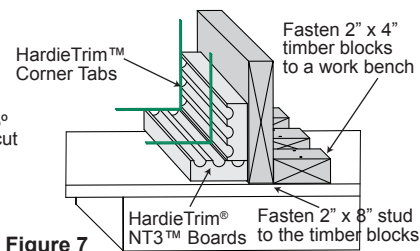

Figure 7
- TIP: Creating a jig for the work station is recommended to ensure corners are fastened securely and straight. (Figure 7)